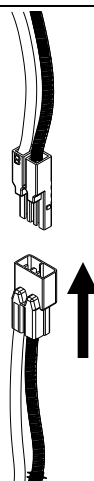

FIG. 3
- Plug the FEMALE CONNECTOR of the RETROFIT TRIM onto the MALE CONNECTOR of the SOCKET ADAPTER ASSEMBLY. (FIG. 3)
- Plug the FEMALE CONNECTOR of the RETROFIT TRIM onto the MALE CONNECTOR of the HALO HOUSING. (FIG. 3)
- Pull the RETROFIT TRIM down from the RECESSED HOUSING. Unplug the FEMALE CONNECTOR of the RETROFIT TRIM from the MALE CONNECTOR of the SOCKET ADAPTER ASSEMBLY. (FIG. 3)